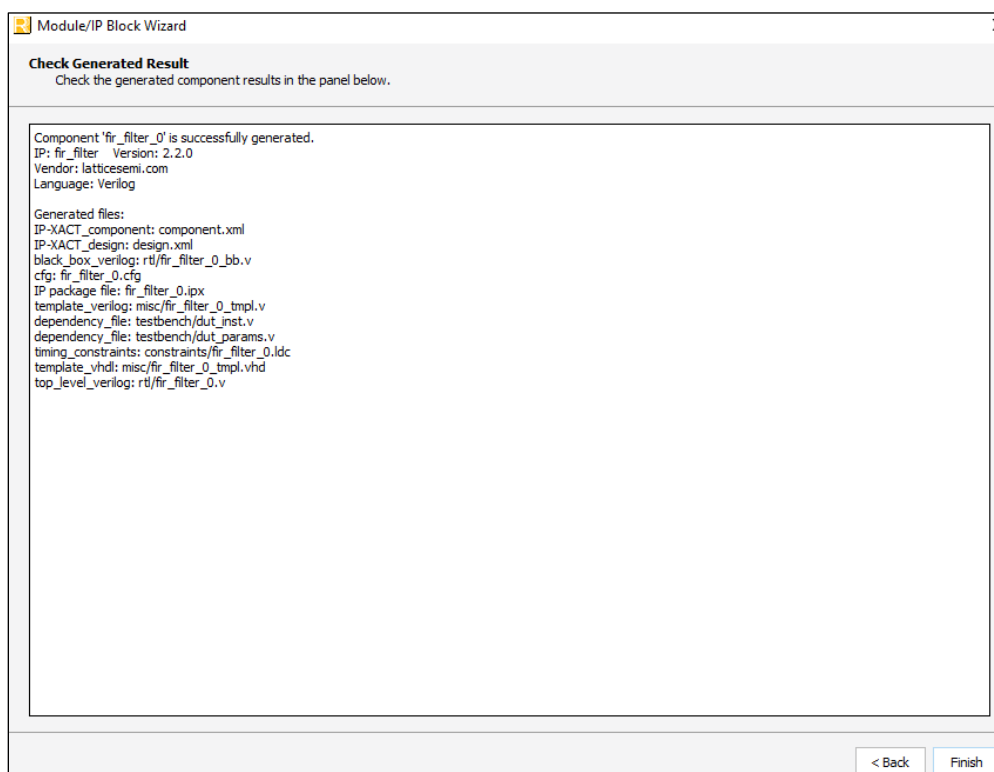

Figure 3.3. Check Generated Result
5. Click **Generate**. The **Check Generating Result** dialog box opens, showing design block messages and results as shown in Figure 3.3.